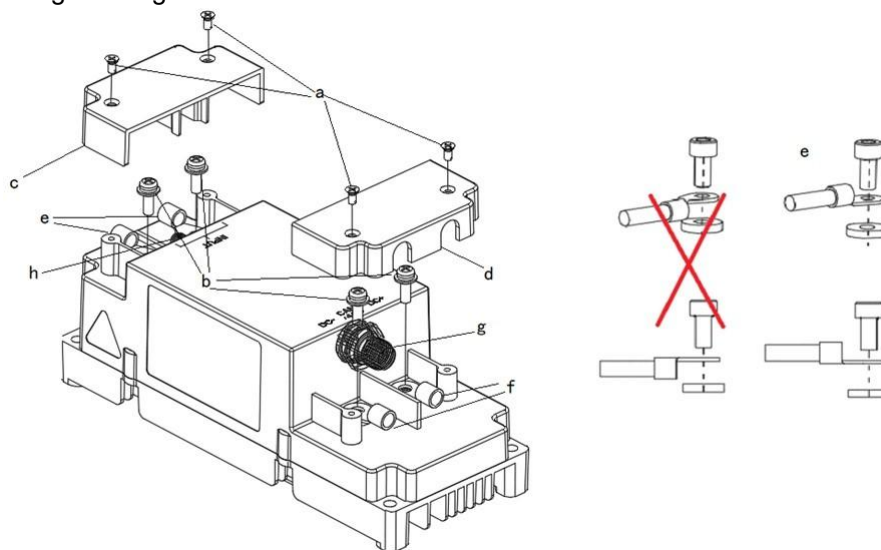

Fig 24 – Connecting the vehicle to ground/opening the receiver controller housing
2. Unscrew the four M3 countersunk head screws shown in Figure 24(a).
3. Remove covers c and d (refer to Figure 24©, d)).
4. Connect the coil: Attach the coil cables (with 2x M4 ring terminals) to the terminals indicated in Figure 24(e). Use only the provided M4 screws (Figure 24(b)). Observe the correct orientation of the ring terminals (Figure 24(2)). Tightening torque: 2.0 N·m.
5. Connection to the battery (energy storage unit): Connect the cables (see Figure 24(f)) to the terminals. Note the terminal assignment/polarity: + (positive) and – (negative). Use only the provided M4 screws (see Figure 24(b)). Observe the correct orientation of the ring terminals (see Figure 24(h)). Tightening torque: 2.0 N·m.
6. Reinstall the covers shown in Figure 24©, d).
7. Secure the screws from Figure 24(a) into place. Tightening torque: 0.3 N·m.
8. Connect the communication interface plug shown in Figure 24(g).
9. Connect the 2.4G antenna interface shown in Figure 24(h).